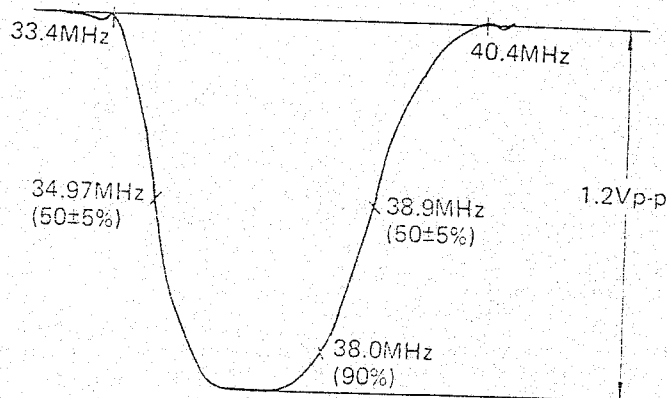

Fig. 3
- (1) Connect the sweep generator output to test point of tuner through PAD-2 (A).
- (2) Connect resistor 180Ω to TP203.
- (3) Adjust the AGC pad to earth side for the max. display amplitude.
- (4) Adjust the sweep generator output level to 1.2 Vp-p.
- (5) Increase the sweep generator output level by 20 dB and adjust the AGC pad VR clockwise until display shows 1.2 Vp-p.
- (6) Summarily, adjust T202 to 40.4 MHz and T203 to 33.4 MHz.
- (7) Adjust T101 (tuner IF coil) to the vicinity of 35.5 MHz and T201 to the vicinity of 38 MHz on the response.
- (8) Adjust T204 and T205 to obtain the waveform as shown in Fig. 3.
- (9) Increase the sweep generator output level by 20 dB and adjust T202 and T203 to correct position.
- (10) Reduce the sweep generator output level by 20 dB and confirm that the waveform as shown in Fig. 3. Repeat steps (7) and (8) if necessary.